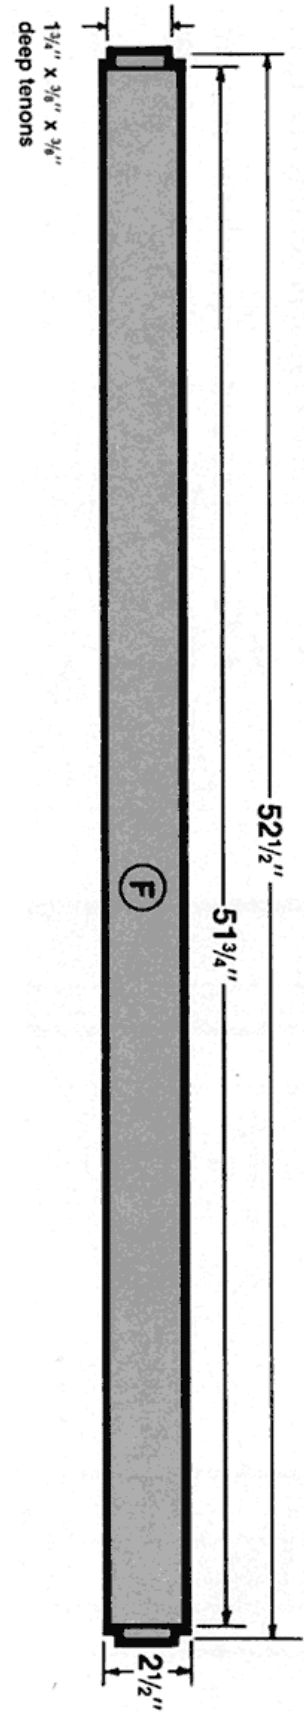

Figure 6
8: Cut the 1-3/4" x 3/8" x 3/8" mortises and tenons in the Bottom Rail (F), as shown in **Fig. 6.**